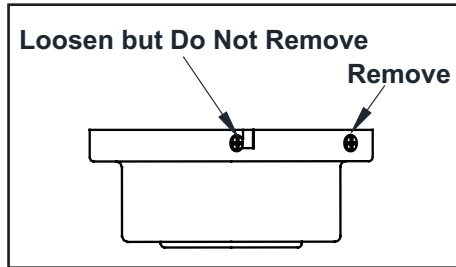

Figure 6
2. Remove the mounting bracket from the canopy by loosening the four screws on the top of the canopy. Remove the two non-slotted screws and loosen the slotted screws. This will enable you to remove the mounting bracket. (Figure 6)
2. Remove the mounting plate from the canopy by loosening the four screws on top of the canopy. Remove the two non-slotted screws and loosen the slotted screws. This will enable you to remove the mounting plate. (Figure 6)